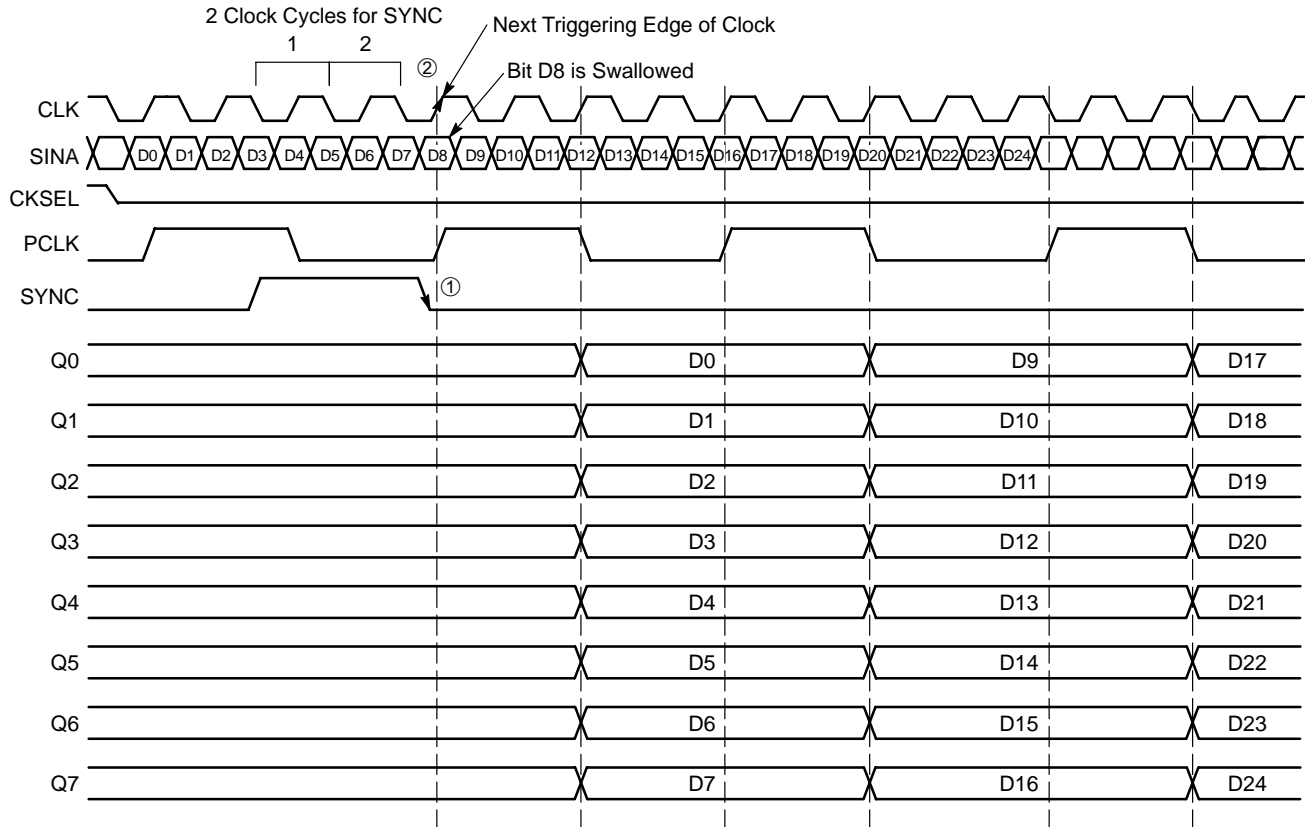
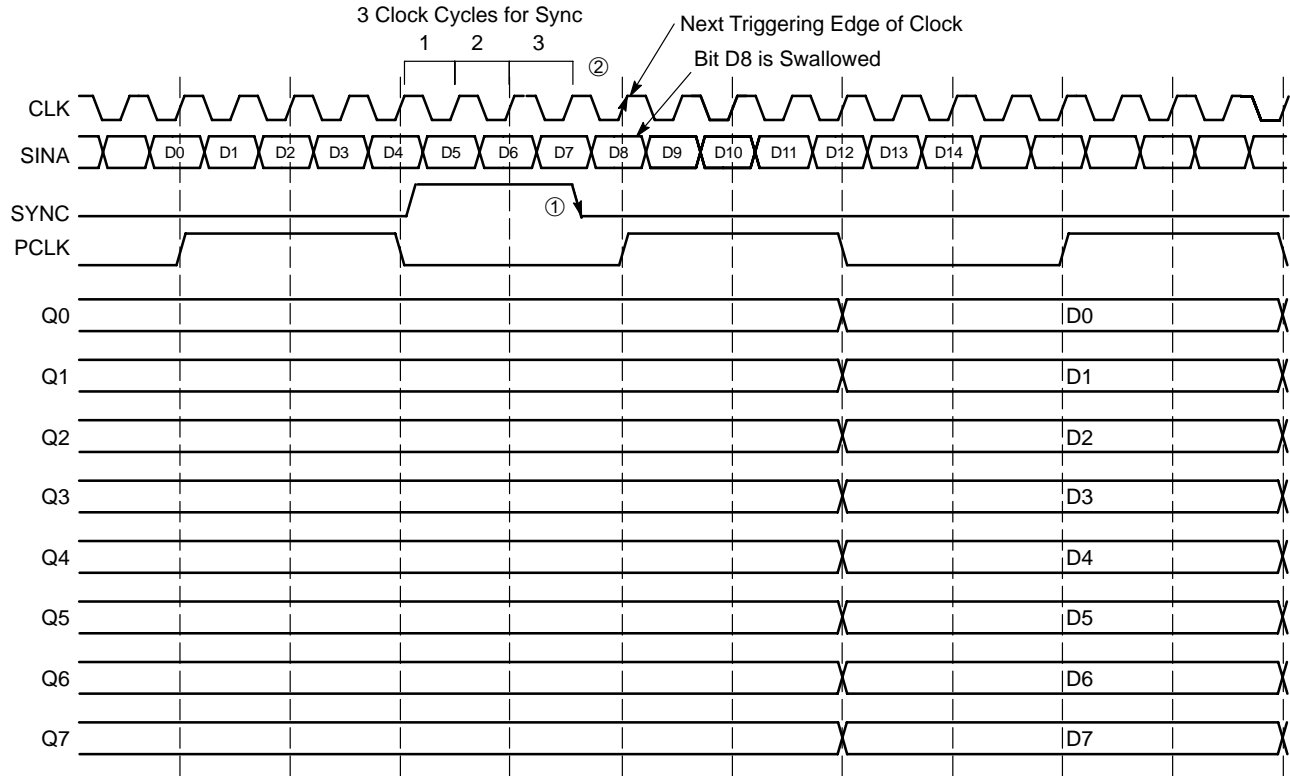

Figure 9. Timing Diagram A. 1:8 Serial to Parallel Conversion with SYNC Pulse at CKSEL LOW
Figure 10. Timing Diagram A. 1:8 Serial to Parallel Conversion with SYNC Pulse at CKSEL HIGH
To allow the user to synchronize the output byte data correctly, the start bit for conversion can be moved using the SYNC input pin (pin 2). Asynchronously asserting the SYNC pin will force the internal clock to swallow a clock pulse, effectively shifting a bit from the Q_n to the Q_{n-1} output as shown in Figure 9 and Figure 10. For CKSEL LOW, a single pulse applied for two consecutive
clock cycles shifts the start bit for conversion from Q_n to Q_{n-1} . The bit is swallowed following the two clock cycle pulse width of SYNC^① on the next triggering edge of clock^② (either on the rising or the falling edge of the clock). Each additional shift requires an additional pulse to be applied to the SYNC pin. (See Figure 9)
triggering edge of clock^② (on the rising edge of the clock only). Each additional shift requires an additional pulse to be applied to the SYNC pin. (See Figure 10)